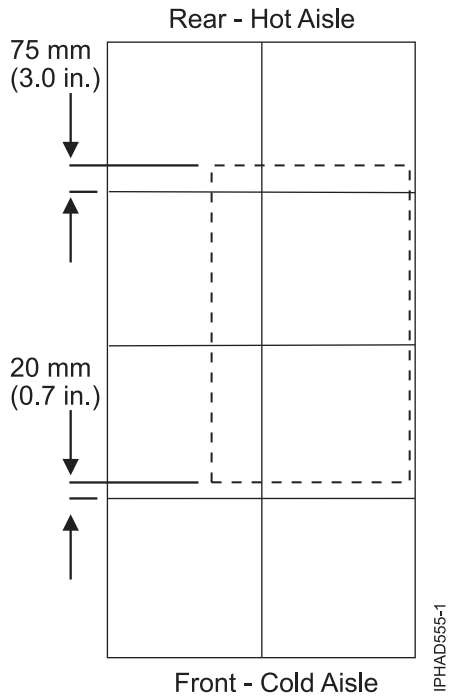
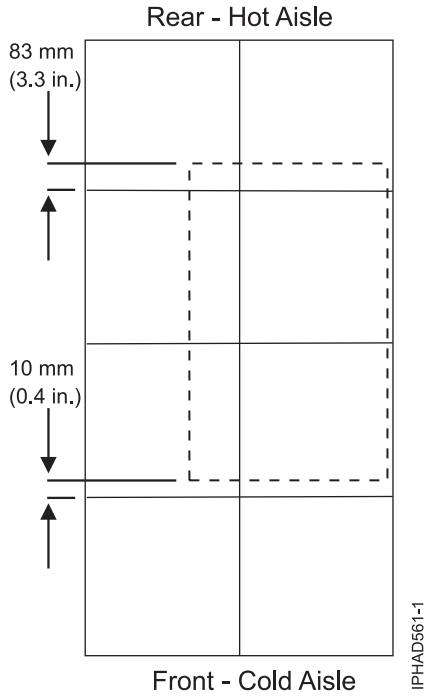

Figure 59. Rack placement for 610 mm (24 in.) tiles
Figure 65. Rack placement for 600 mm (23.6 in.) tiles
3. The Figure 59 on page 112 and Figure 65 on page 118 figures are intended only to show relative positions and accurate dimensions of floor cutouts. The figures are not intended to be a machine template and is not drawn to scale.